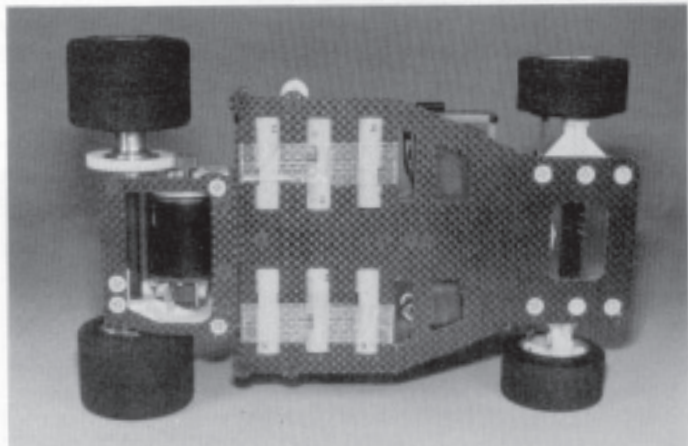

Fig. 86
□ **Fig. 86** This photo shows how the batteries are held in with reinforced strapping or filament tape. The tape is run around the battery cells and the chassis as shown.